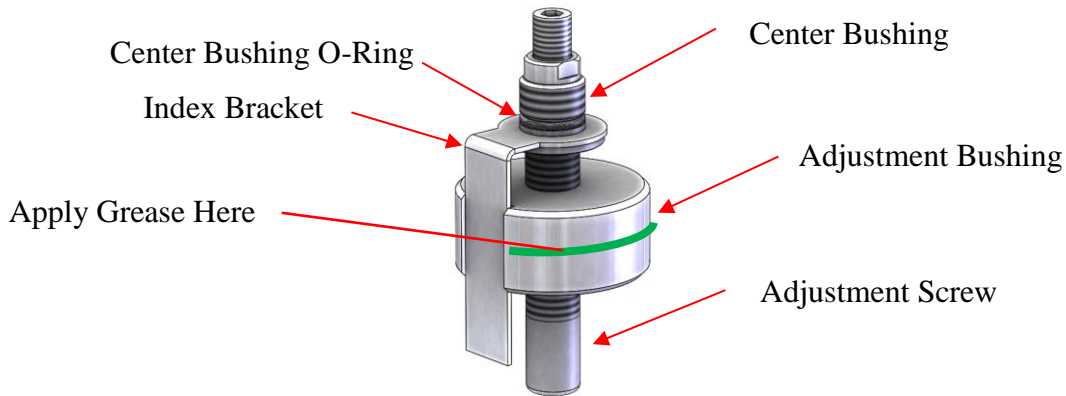

Figure 37: 2" Inner Bonnet Components
3. Lubricate the outer surface of the adjustment bushing. See Figure 37.
9. Install the center bushing and index bracket over the top of the adjustment screw. The center bushing should be oriented with its wrenching flats towards the top of the adjustment screw. The angle portion of the index bracket should be pointed downwards and be aligned with the notch of the adjustment bushing. The current subassembly should look like Figure 37.
4. Install the center bushing and index bracket (for 2” Bodies) over the top of the adjustment screw. See Figure 37.